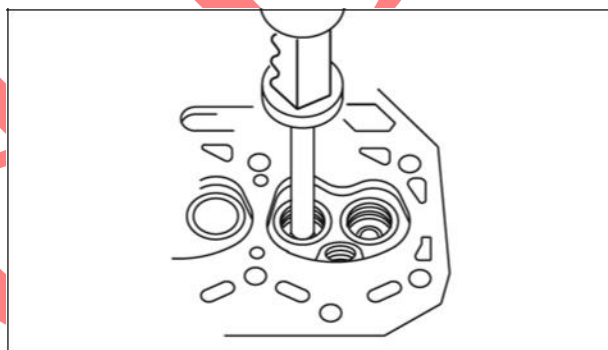

Figure 15
6. Use Bushing Driver #19367, and press out valve guide bushing from combustion chamber (Figure 15).